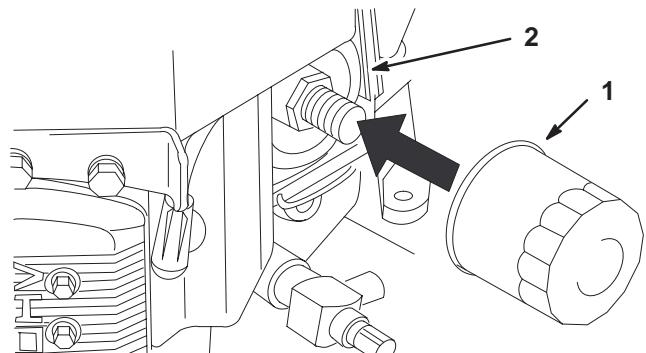

Figure 32
2. Remove the old filter (Fig. 32).
3. Apply a thin coat of new oil to the rubber gasket on the replacement filter (Fig. 32).
4. Install the replacement oil filter to the filter adapter, turn the oil filter clockwise until the rubber gasket contacts the filter adapter, then tighten the filter an additional 3/4 turn (Fig. 32).